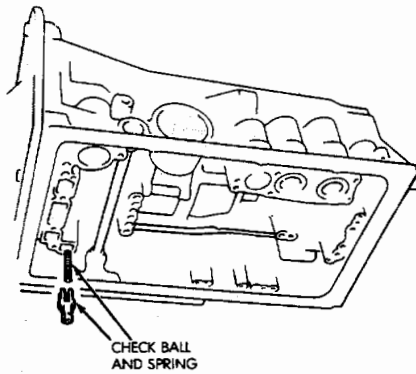
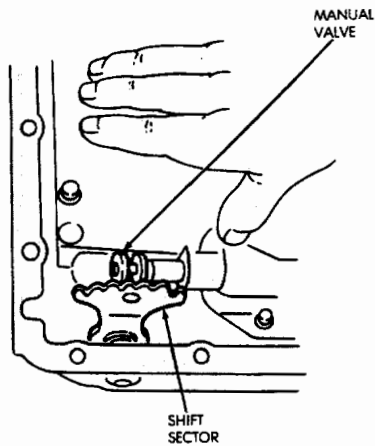

Fig. 16 Removing/Installing Valve Body Check Ball And Spring
Fig. 17 Align Shift Sector And Manual Valve
- (8) Remove valve body and check ball and spring (Fig. 16).
- (2) Install check ball and spring (Fig. 16).
- (3) Position accumulator springs and spacers on valve body.
- (4) Align valve body manual valve with shift sector (Fig. 17) and carefully position valve body on case.